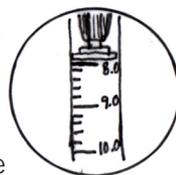

Figure 3-16a:
- Read the test result directly from the scale opposite the bottom of the plunger tip (Figure 3-16a).